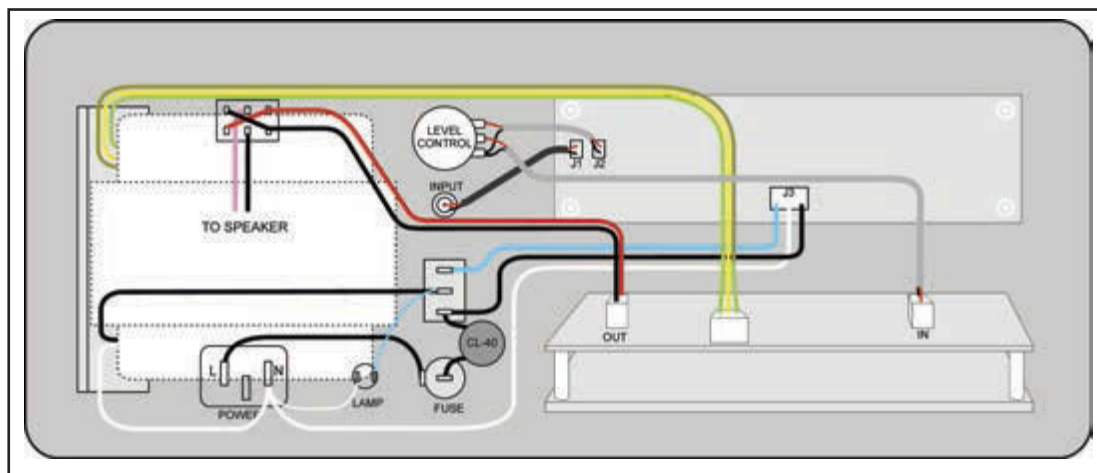

Figure 12: This diagram shows how I wired the panel.
- Now install the signal detecting board, input jack, power connector, fuse holder, and so forth on the main panel and the panel is ready to be wired as shown in **Figure 12**.